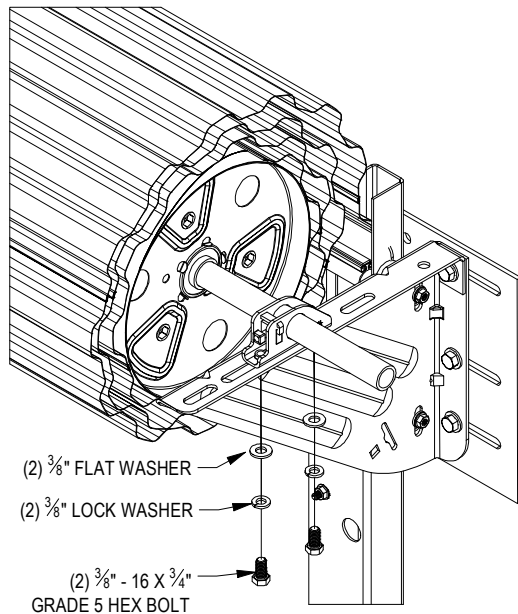

FIGURE 18:
- Attach stamped axle support to door bracket using two (2) each $\frac{3}{8}$ " - 16 x $\frac{3}{4}$ " grade 5 hex bolts, $\frac{3}{8}$ " lock washers, and $\frac{3}{8}$ " flat washers. **See Figure 18.**